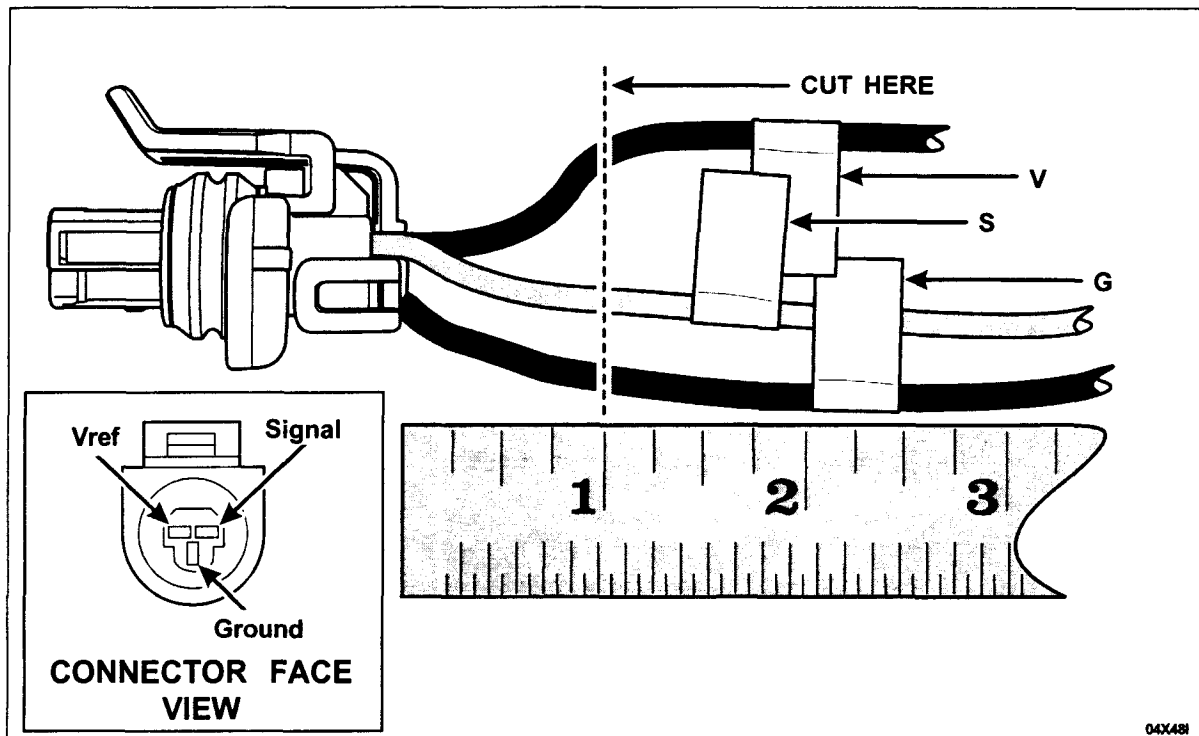

FIGURE 9
Identify each wire leading to the connector (Vref, Ground and Signal). Note the locations of each wire relative to the connector face view provided. Place the identification tags at least a few inches away from the connector. See Figure 9.
4. Cut the wires about 25 mm (1 inch) behind the connector on the vehicle harness **MAKING SURE TO LEAVE THE IDENTIFYING TAGS ON THE HARNESS** and discard the old connector. See Figure 9.